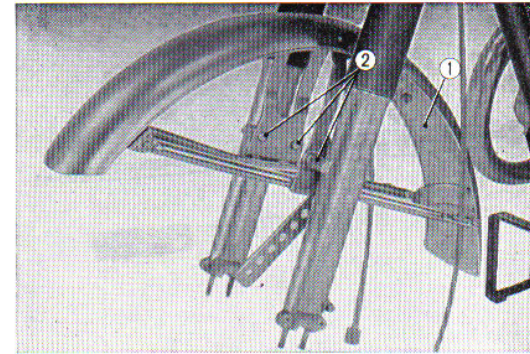

Fig. 4.17 Removing the front fender
2. Remove the 6mm fender stay mounting bolt from both sides, 8mm fender mounting bolt and the front brake stopper arm bolt. The fender can be separated from the fork. (Fig. 4.17)